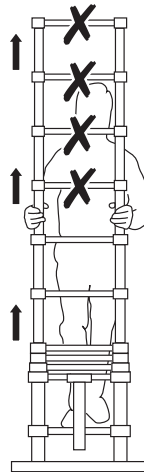

Fig. 4
- c. Never work when standing on the top four steps (Fig. 4) and make sure that the ladder is at least one metre higher than the step on which you are standing (Fig. A).